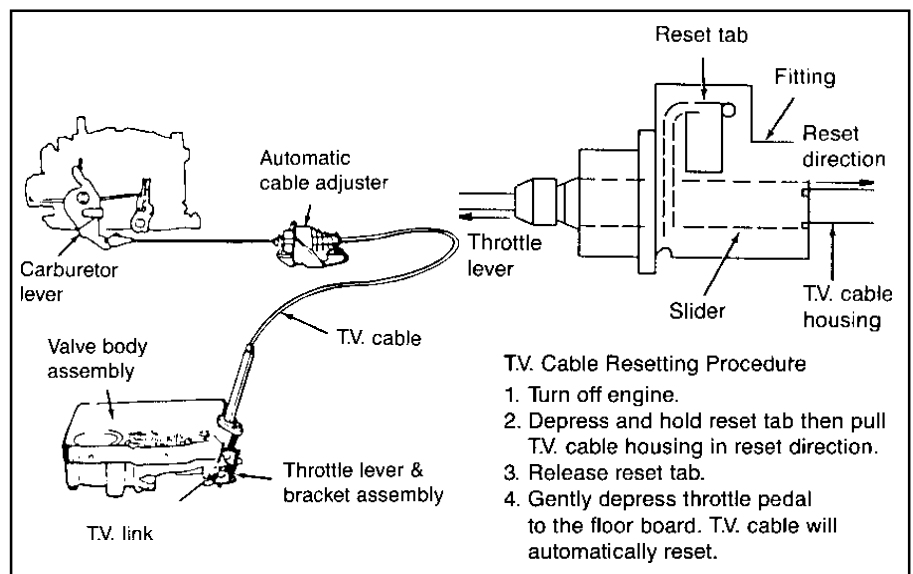

Figure 13
**STEP 24.** You must reset the TV cable before operating vehicle, Figure 13 shows the correct procedure. Failure to reset the TV cable may
2. Check TV Cable adjustment (**See Fig. 13**).